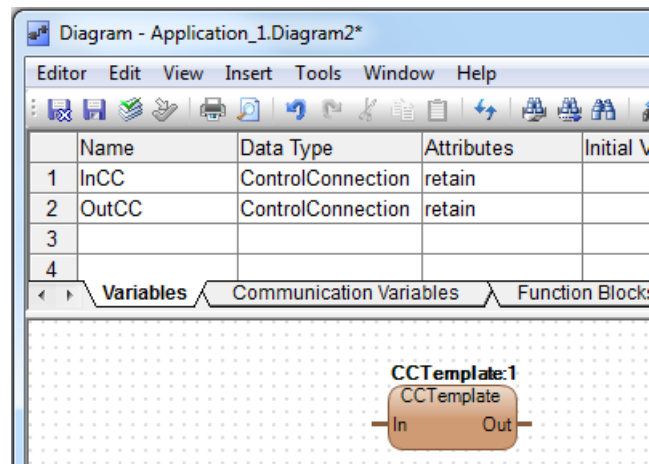

Figure 64. CCTemplate inserted in the graphical code block
- c. Click **Insert**. The CCTemplate control module is inserted as shown in Figure 64.